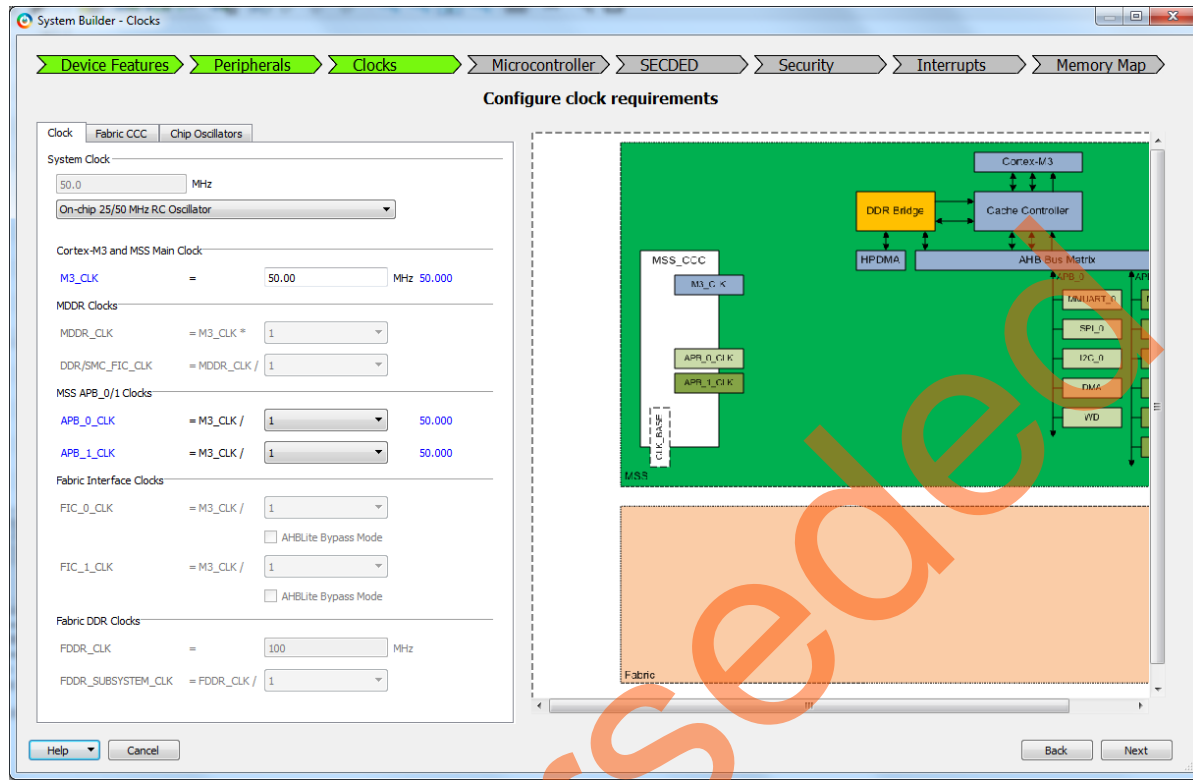

Figure 9 • System Builder - Clocks Page
11. Click **Next**. This opens **System Builder - Clocks** page as shown in Figure 9.
12. In the **System Builder - Clocks** page (see Figure 9):